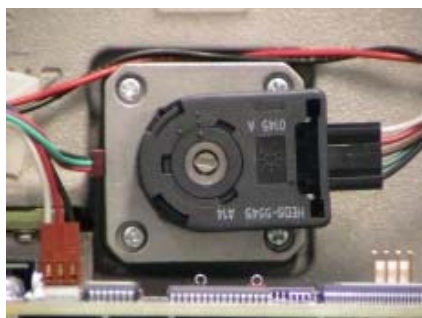

Figure 35 - Filter Position Adjuster
- * CCW will move the filter into the beam. See Figure 35.